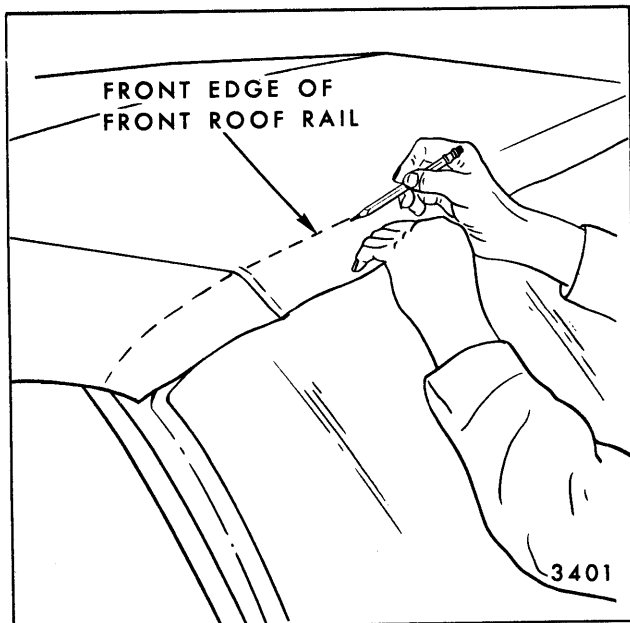

Fig. 13-22—Marking Top Cover at Front Roof Rail
16. Lock front roof rail to windshield header. Pull top cover straight forward at seams to desired top fullness. While maintaining tension on cover over front roof rail, make pencil mark on cover outer surface along forward edge of front roof rail (Fig. 13-22).